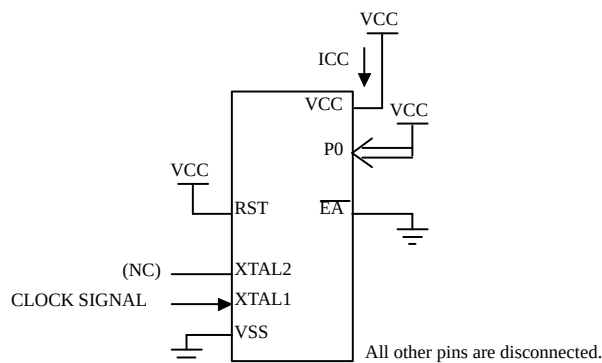
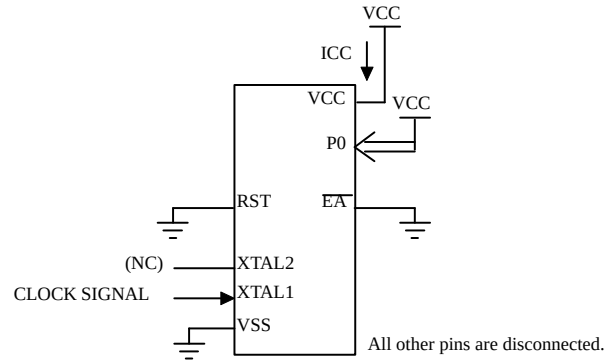

Figure 19. ICC Test Condition, Active Mode.
Figure 20. ICC Test Condition, Idle Mode.
1. ICC is measured with all output pins disconnected; XTAL1 driven with TCLCH, TCHCL = 5 ns (see Figure 20.), VIL = VSS + 0.5V, VIH = VCC – 0.5V; XTAL2 N.C.; EA = RST = Port 0 = VCC. ICC would be slightly higher if a crystal oscillator used (see Figure 19.).
2. Idle ICC is measured with all output pins disconnected; XTAL1 driven with TCLCH, TCHCL = 5ns, VIL = VSS + 0.5V, VIH = VCC–0.5V; XTAL2 N.C.; Port 0 = VCC; EA = RST = VSS (see Figure 20.).